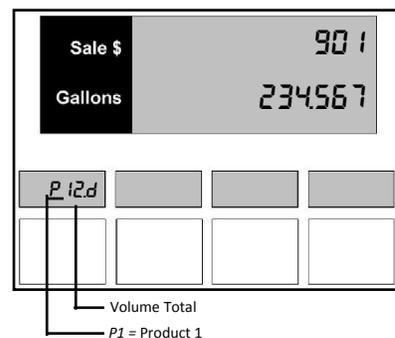

Figure 26.3 – Hose 1 Volume Total
1. Press the ↓ button. The main display indicates Hose 1 volume totals as shown in *Figure 26.3*.
- a. The main display shows the total volume amount. For example, if the total volume amount for the dispenser were 901,234.567 gallons, the display would appear as in *Figure 26.3*.